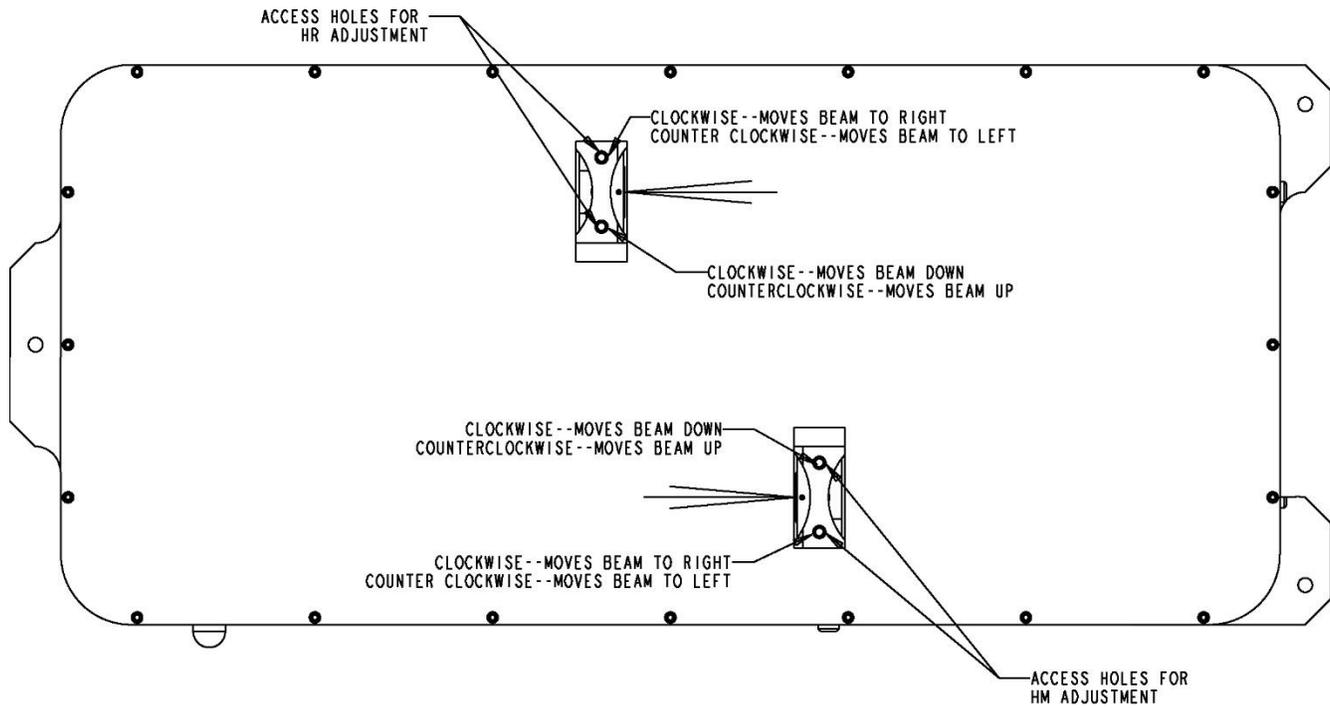

Figure 5-6. Accessible Holes for HR and HM Cavity Mirror Adjustment
- a. Locate the access holes for high-reflection mirror (HR) and harmonic mirror (HM). Notice the positions of HR and HM mirrors with respect to the direction of the laser output in **Figure 5-6**.
- d. The screws for the adjustments of the vertical tilt angle and the horizontal tilt angle are illustrated in **Figure 5-6**.